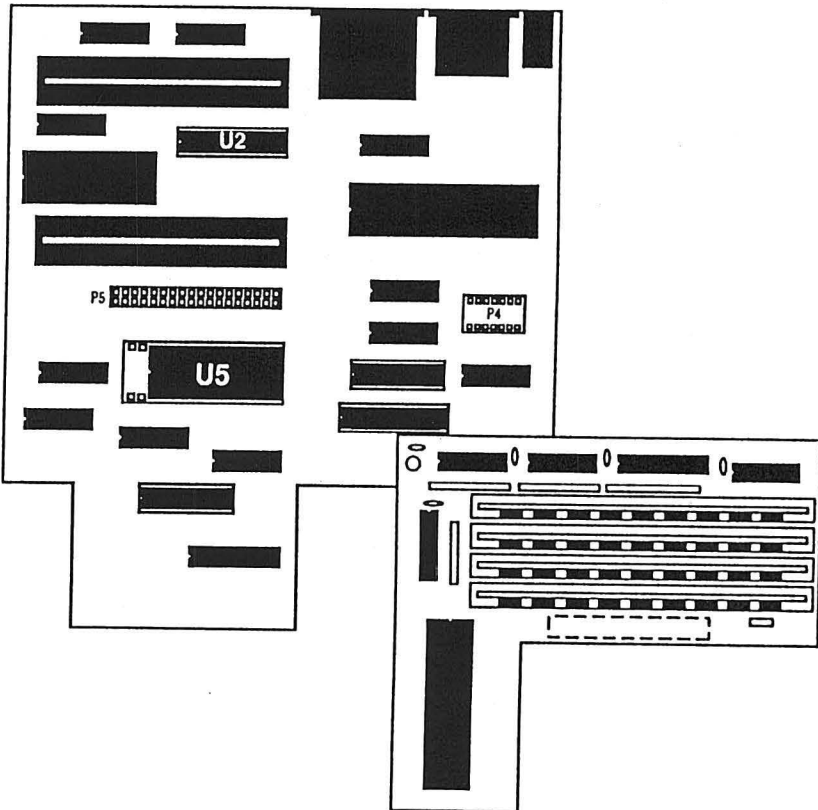

Figure 4
5. If you have a RAMCard in your RAMLink, you will have to disconnect it from the main board. RAMCard is connected at two different points on the main board. One is an electrical connection (P1 on RAMCard, P5 on the main board), and the other is plastic mounting standoff. Remove RAMCard from the electrical connection (P1/P5) by placing your fingers under each side of the RAMCard board and rocking it gently upward. You may leave RAMCard attached to the plastic standoff, using it as a pivot. Rotate RAMCard on this pivot point counter-clockwise until it is in the position shown in Figure 4.
7. Place the new ROM IC included with your upgrade into the socket (notched end of the chip pointing toward the left side of the main board - see Figure 4). Also note that this chip has less pins than does the socket, and that it should be placed all the way to the right side of the socket, leaving four holes in the socket unused (two on each side).